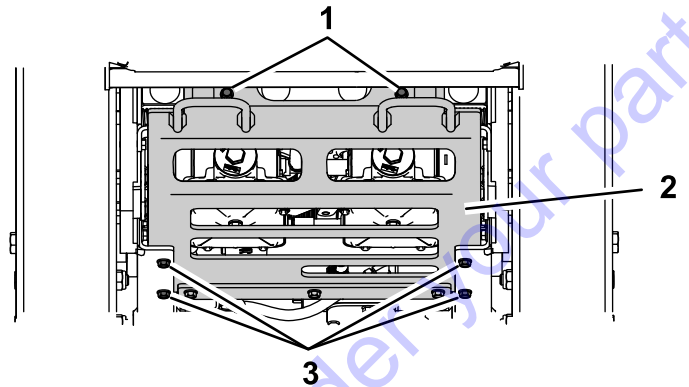

Figure 49
4. Remove the 6 bolts (2 rear, 4 side) from the skid plate and remove the skid plate (Figure 49).
- Install the skid plate (Figure 49).